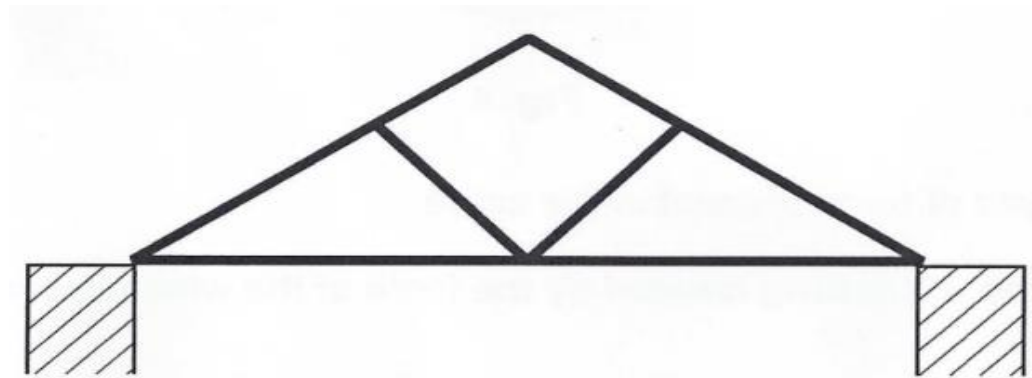

Fig. 2.3
- (c) Fig. 2.3 shows a roof structure in equilibrium.
- (i) In Fig. 2.3, indicate and label one member in compression and one in tension. [2]